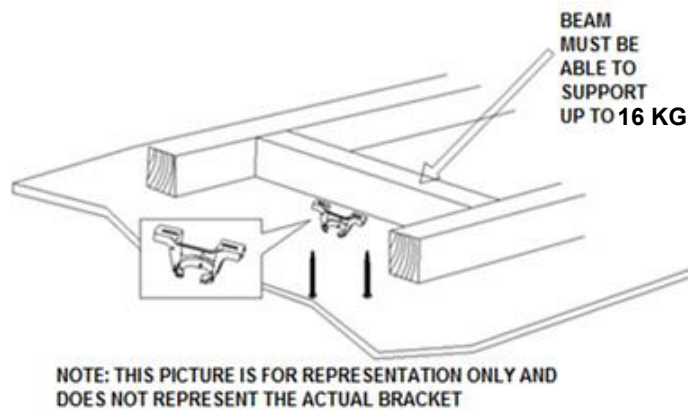

Fig. 2
- Install the mounting bracket to the ceiling joist or structure that is capable of carrying a load of at least 16kg, with the two long screws provided. Ensure at least 30mm of the screw is threaded into the support. (Fig. 2)